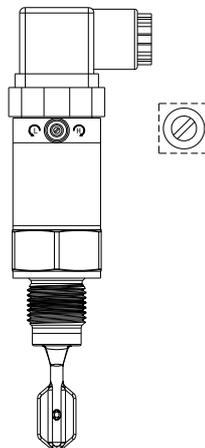

Fig. 15
- (2) Use a straight screwdriver to slightly rotate the electronic potentiometer clockwise to the end, so the instrument is in “High level” mode. (See Fig. 15)
- (3) Use a straight screwdriver to slightly rotate the electronic potentiometer counterclockwise to the end, so the instrument is in “Low level” mode. (See Fig. 15)